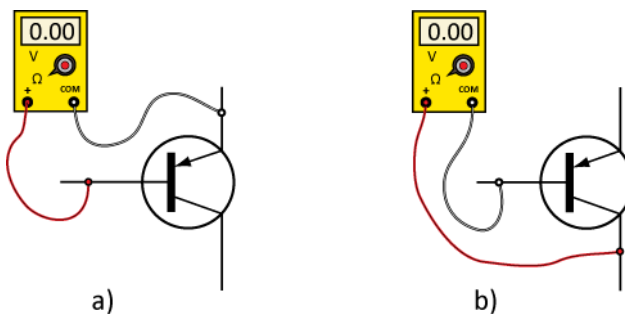

Fig. E5-2
2. With the ohmmeters connected to the PNP transistors as shown in Fig. E5-2, what will be the readings indicated on the two meters?